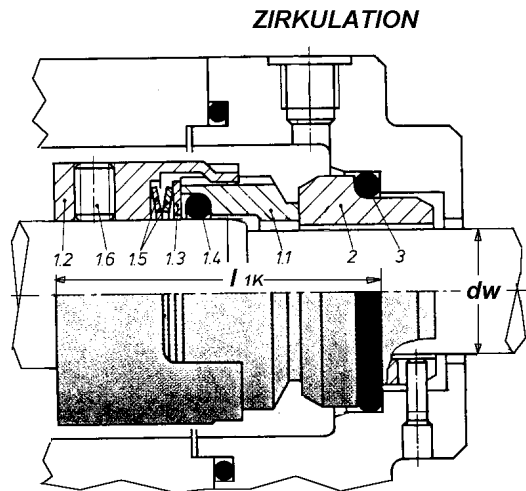

Fig. 1
In the following description all figures in parentheses, e.g. (2) define the respective part item no. in fig. 1. The part item no. may vary from those stated on the corresponding assembly drawing.